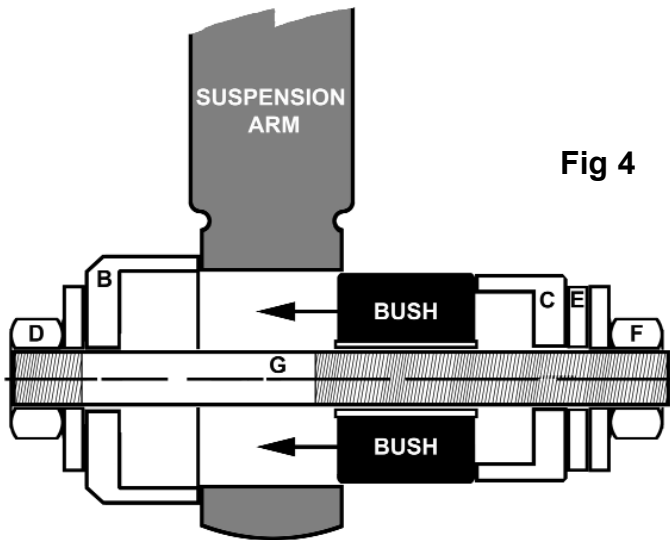

Fig 4
3.2. INSERTING A BUSH. (Refer to Figs 4 & 5)
- 3.2.1. Screw the nut with washer attached (D) onto the short threaded portion of threaded rod (G). Slide the small static cup (B) onto the threaded rod in the orientation shown above in fig.4.
- 3.2.3. Slide the new bush onto the threaded rod and align it with the hole in the arm. Place the pushing cup (C) up against the bush and slide on the washer (E). Retain the whole assembly by screwing on the nut with washer (F). Before commencing insertion ensure that the assembly is aligned with the hole in the suspension arm as shown in fig.4.